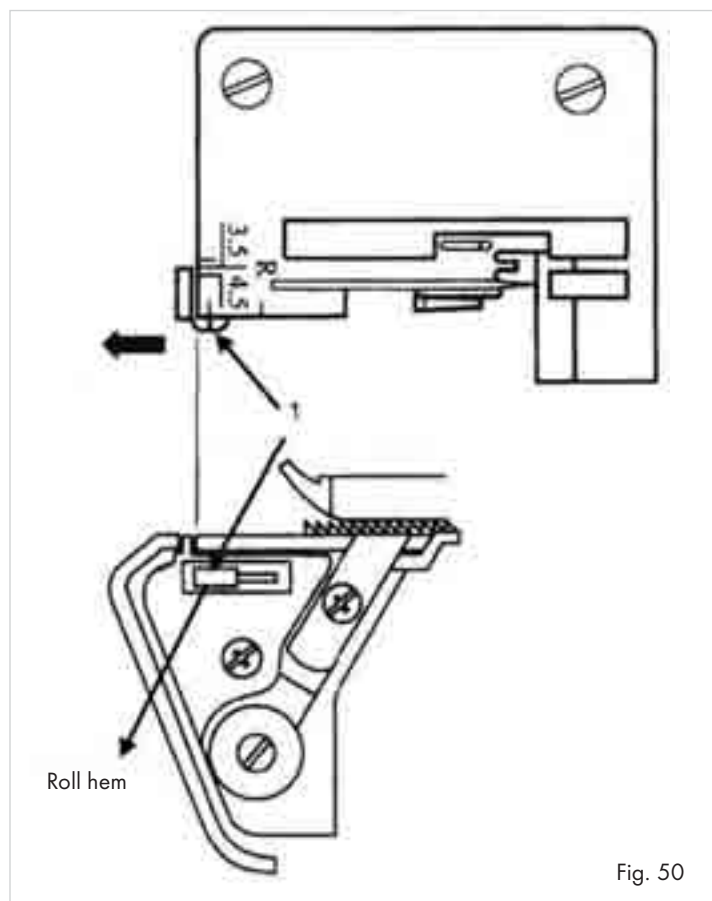

Fig. 50
- Open the front flap ⑩.
- Slide the seam width switch ⑳ to "R", so that the seam width finger is pushed backward (1) (Fig. 50).
① **Note:**